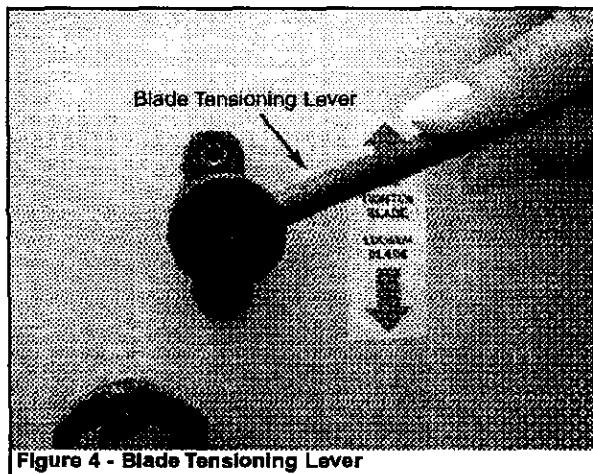

Figure 4 - Blade Tensioning Lever
Refer to Figures 4 - 13, pages 5-8.
- Turn blade tensioning lever on the back of the tool clockwise all the way until it locks in position to release blade tension (see Figure 4).
- Tension blade by turning blade tensioning lever counterclockwise, as far as it will go (see Figure 4). This is a spring loaded, tensioning mechanism and it will automatically apply required tension to the blade.